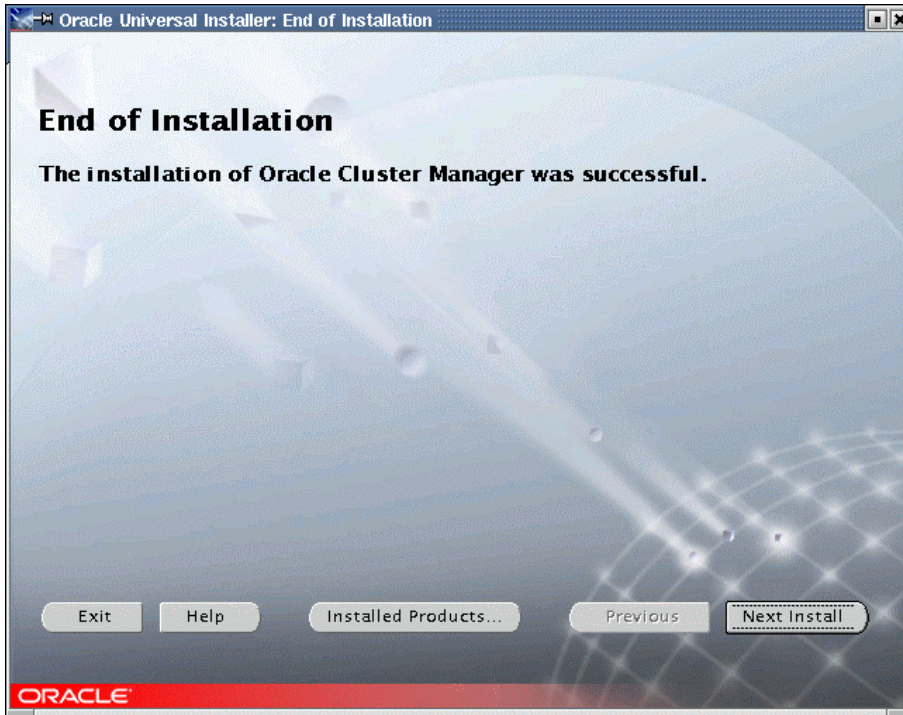

Figure 38. End of Installation
13. A progress screen will be briefly shown, then the End of Installation window shown in Figure 38. Click **Exit**, then **Yes** on the confirmation window.